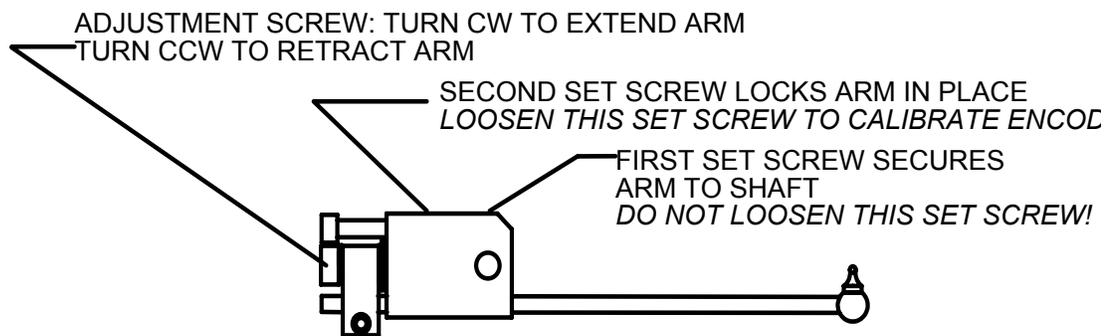

Figure 1
This feature allows the Melt Indexer to correlate Melt Flow Rate (g/10 min) to Intrinsic Viscosity (dl/g). It is automatically activated when the temperature is set to 285 Celsius. IV results are based on an empirical study (see Figure 1) which included various PET resins. A reference material of known IV is needed to calibrate the melt indexer. After determining the average Melt Flow Rate of at least 3 runs Perform the following:
4. If calibration is required, then the right hand cover on the encoder housing must be removed. Remove the cover from the Encoder Housing using a 3/32" Allen wrench. Loosening the arm set screw shown in Figure 1 (5/64" Allen Wrench). *Be sure to loosen the proper set screw, otherwise the entire arm will come loose from the shaft. If the first set screw is accidentally loosened then the left cover must also be removed and the first set screw retightened when the arm is in the full down position when the gear is oriented as shown in Figure 2.* The second set screw has been locked with removable Loctite and may be stiff. After loosening the second arm set screw, determine how far the adjustment screw on the arm (see Figure 1) must be turned by using Table 1 & the results from step 3. For example if the difference in the micrometer head readings from step 3 yielded 25.45mm, then the adjustment screw must be turned **-87.6 degrees** (negative = ccw rotation as viewed from the rear of the instrument) or about ccw 1/4 of a full turn to bring it back into calibration per ASTM requirements. Use a 1/8" Allen Wrench to turn the adjustment screw.
5. Recheck the encoder calibration by repeating the micrometer measurements in steps 2 & 3. If further adjustment is required then again use Table 1 to determine the appropriate degrees of movement. Repeat this process until the arm is calibrated. Once the arm is calibrated, secure the arm in place by re tightening the second arm set screw (see Figure 1). Apply removable thread locker (Loctite type 290 or equivalent). Reinstall the cover and tighten all hardware.